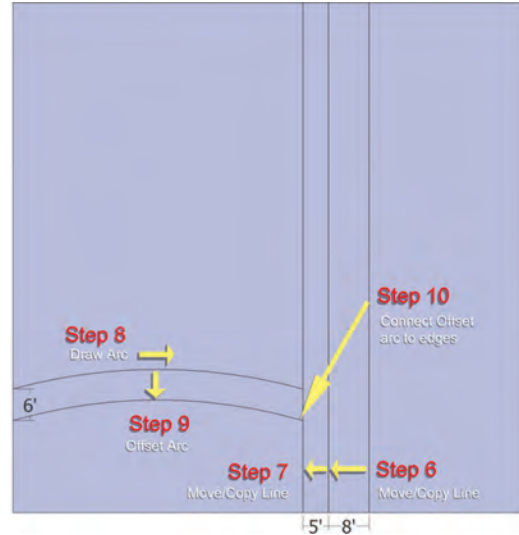

Fig. 6-8: Drafting the walks and trails
6. Define the sidewalk and tree lawn (Fig. 6-8).
8. Add a curved trail (Fig. 6-8).
- c. Select the third point to define the radius of the arc (the bulge). Make sure to snap to the On Face inference point. Give the arc a gentle curve, as shown in Fig. 6-8.
9. Duplicate the arc to define the trail (Fig. 6-8).